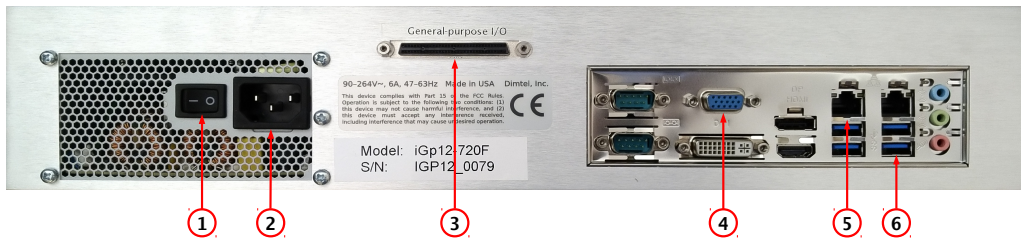

Figure 3: Rear panel features
6. Connect a USB keyboard (Fig. 3, item 4);
7. Connect a video monitor (Fig. 3, item 5);
Setup program is included in the IOC for configuring the important features of the iGp12-80F. The program can be executed locally or remotely. For local execution one must first connect a keyboard (Fig. 3, item 4) and a video monitor (Fig. 3, item 5) to the system. For remote setup, use `ssh` after system bootup to establish connection. In both setup methods the user must login as `root` (initial password is supplied with the system). If the newly received iGp12-80F must be configured remotely (when, for example, a keyboard or a monitor is not available), such configuration can be performed